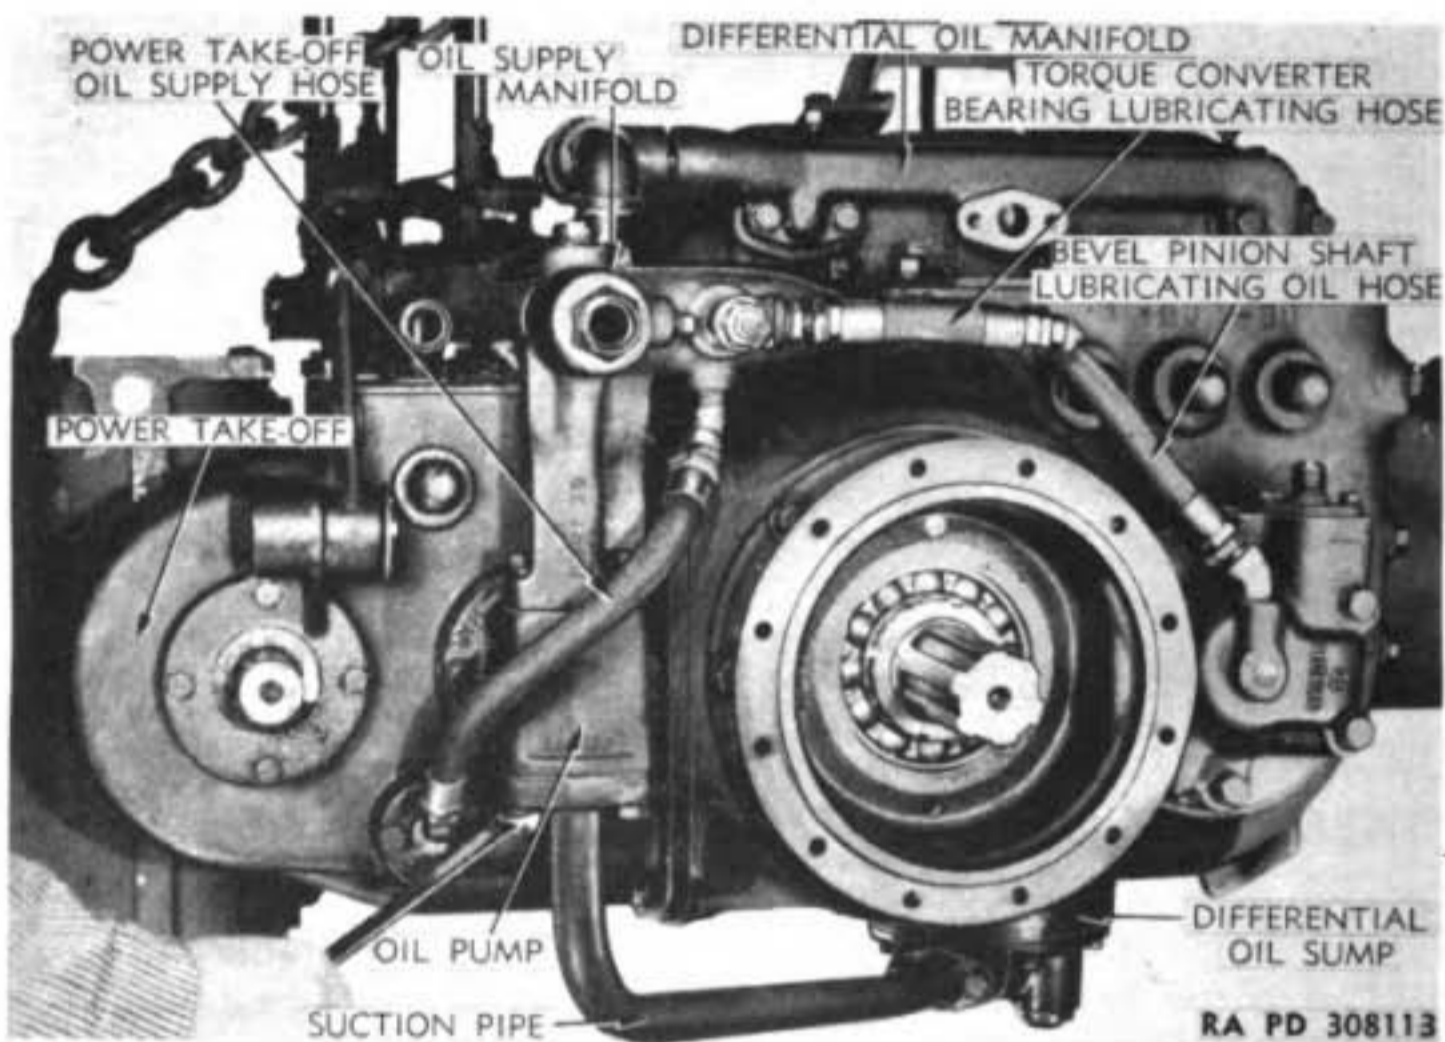

Figure 13 – Removing Oil Pump Suction Pipe
nect generator wire from terminal of ammeter and remove it from clips on instrument panel. Disconnect larger engine primer line from front of fuel tank and remove line. Disconnect air lines inside hull back of front hull post (fig. 9). Disconnect smaller engine primer line near front post of hull and lay pipes back on fuel tank. Place instrument panel under front of tractor in such a manner that instruments are protected from damage. Remove bolts from first two clips inside hull holding air lines, small primer line, and generator wire to hull on right side and lay wire and lines back on fuel tank. Remove bolt from wiring harness clip on left front hull post. Disconnect transmission vent line from fitting at top of power take-off. Disconnect wires from transmission oil pressure and temperature gage operating units on transmission oil supply manifold (fig. 13). Disconnect front converter bearing lubricating oil line from fitting on converter. Disconnect large discharge oil line from rear of transmission oil supply manifold. Remove shear pin from front winch propeller shaft universal and power take-off shaft, and the two bolts from center winch propeller shaft bearing to allow universal to be forced from power take-off shaft. Remove nuts from studs attaching converter to adapter at rear of transmission. Remove two cap screws connecting transmission oil return line to differential oil manifold at rear of differential case. Remove the two towing
b. Connect Controls, Pipes, and Wires. Connect transmission vent pipe to fittings on top of power take-off and vent tube at bottom of radiator supporting frame. Pull winch clutch control rod forward through hole in front post of hull. Connect rear end of rod to clutch lever on winch with yoke pin and secure pin with cotter pin. Using new gasket, connect transmission oil return pipe to oil manifold on rear of differential case (fig. 13) with two cap screws and lock washers. Install bolt with lock washer to attach clip supporting rear end of this pipe to bracket on converter. Slip front winch propeller shaft universal onto power take-off shaft, line up holes, and install shear pin through both. Secure with cotter pin. Attach center bearing on winch propeller shaft to side of hull with two bolts and lock washers. Connect large transmission oil discharge line to rear of transmission oil supply manifold. Connect converter bearing lubricating oil line (fig. 13) to fitting on converter. Connect wires to terminals of transmission oil pressure and temperature operating units on oil supply manifold. Connect clip on wiring harness to inside of front hull post with bolt and lock washer (fig. 9). Connect air pipes and smaller primer line pipe and secure these pipes and generator wire with clips and bolts to the first two brackets inside hull (fig. 9). Connect larger primer line pipe to fitting on fuel tank. Attach clips on pipes and wires to differential case and final drive spacer (fig. 8).
Remove four cap screws attaching oil pump suction pipe to pump and oil sump and remove pipe (fig. 13). Remove eight cap screws and remove oil sump and screen from bottom of differential case (fig. 49). Lower assembly onto a platform or blocks built so that the entire assembly will be supported on these blocks by the differential case and sprockets will clear floor. Place wedges under differential case so assembly cannot tip sideways or roll forward or back. Remove hoist chain and hoist.
c. Remove Power Take-off Assembly From Transmission (figs. 13 and 14). Disconnect lower end of power take-off oil supply hose from power take-off. Disconnect oil inlet hose from lower pipe elbow at rear of oil pressure relief valve. Disconnect end of transmission bevel pinion shaft oil supply hose from oil supply manifold. Remove cap screw from clip on this hose. Disconnect transmission reverse idler gear oil supply hose from fitting on left side of transmission case at bottom and rear of case. Remove the two cap screws attaching oil supply manifold to oil pump and remove manifold with attached hoses. Unhook the two brake return springs from bracket on power take-off and levers and remove them. Remove yoke pin to disconnect control rod from power take-off shifter shaft, then remove the eight attaching cap screws and lift power take-off assembly from transmission case.